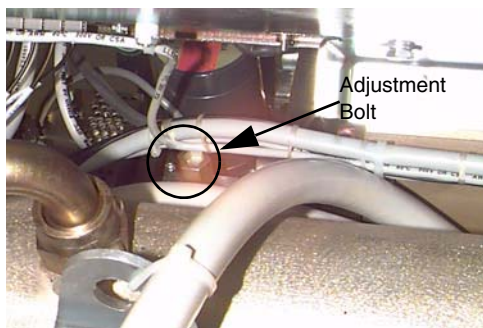

Figure 11-19 ISO Adjustment Bolt
- 11.) Using a 10 mm hex, loosen the four (4) M-12 bolts on the tube assembly.
- 12.) Refer to Figure 11-19 for the following steps: